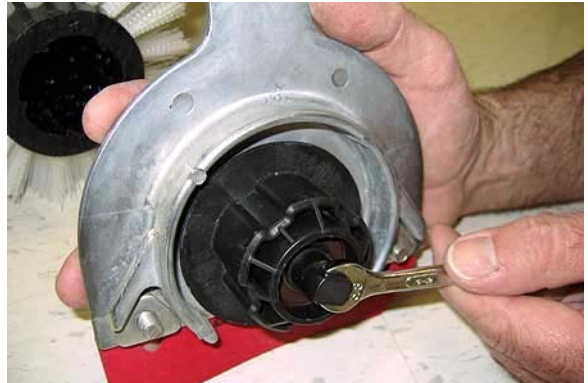

FIG. 56
4. To lower the brush end, turn the shaft clockwise for the front brush and counter-clockwise for the rear brush. Retighten hex screw (Figure 56).